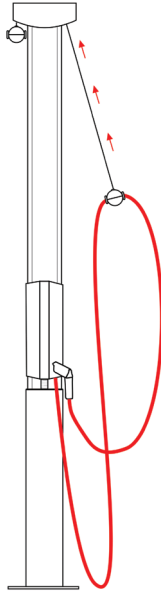

Figure 1.2 Charging cable midway point
- D. Find the approximate midway point of the charging cable. Without tightening the screws all the way, loosely attach the cable clamp to the charging cable and retract to starting point. The cable should freely slide/move within the clamp. See Figure 1.2 (Charging cable midway point).